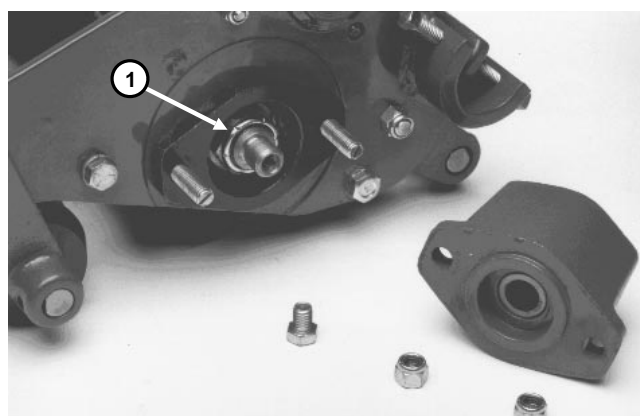

Figure 7
2. Loosen large reel bearing adjustment nut (Fig. 7). Tap on the head of the hex head bolt on the end of the reel shaft with a small hammer, until end play of the reel shaft can be felt.
4. Check rolling torque with an inch-pound torque wrench (Fig. 7). Reel bearing rolling torque should not exceed 7 in-lb. Repeat steps 2, 3 and 4 if necessary.